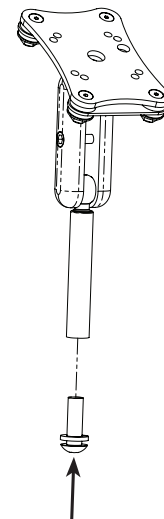

Figure 1
2. Using the *5mm Hex Key*, fasten the *Mounting Post* to the bike's mirror hole with the *Post Screw* and *Post Washer* as shown in Figure 1. Make sure that the assembly order is such that the *Post Washer* is contacting the head of the *Post Screw*.